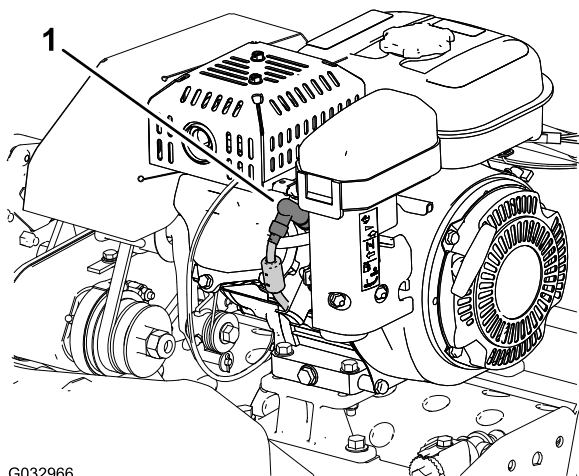

Figure 1
5. Disconnect the spark-plug wire from the terminal of the spark plug (Figure 1).